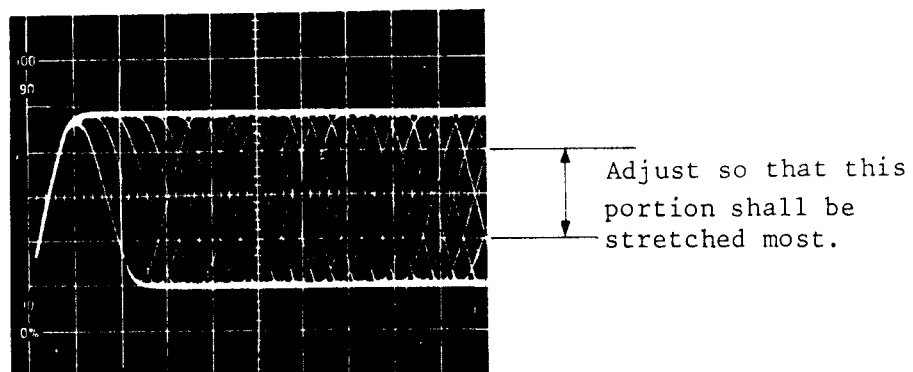

Fig. 2-12
- ③ Turn on the power supply switch.
- ④ Place the test disc (SZZP1014F) and set the player to the playing condition.
- ⑤ The RF signal is indicated on the oscilloscope. Adjust VR101 so that the eye pattern shall be stretched most as illustrated in Fig. 2-12.
- ⑥ Turn off the power supply switch.